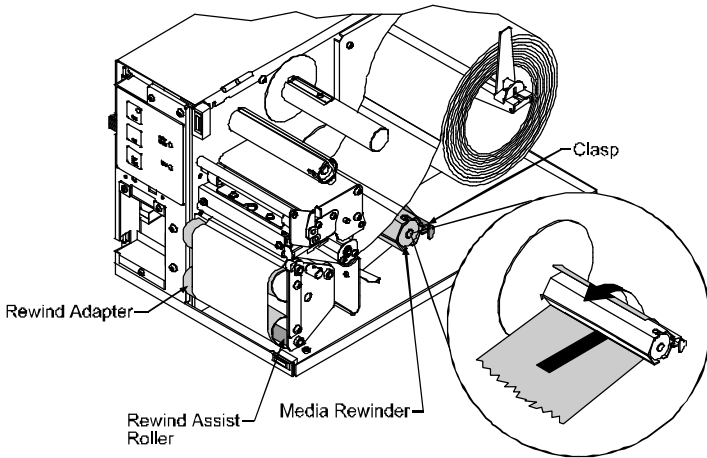

Figure 1-10 Routing the Media for Rewinding
3. Route the media so that it slides over the rewind adapter as shown in Figure 1-10.
1. If the Peel-off Mode is desired, route the media backing down past the Rewind Assist Roller, (see Figure 1-10) to the media rewriter and reverse the serrated tear off plate.